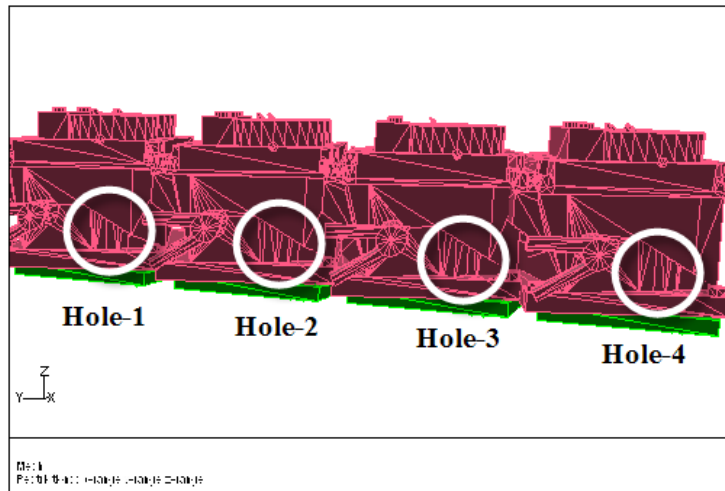

Figure 7.2: Holes to be Closed in the f_v8-airintake Zone
- f_v8-airintake (see Figure 7.2)
- (d) Click Display and rotate the geometry to obtain the view shown in Figure 7.2.